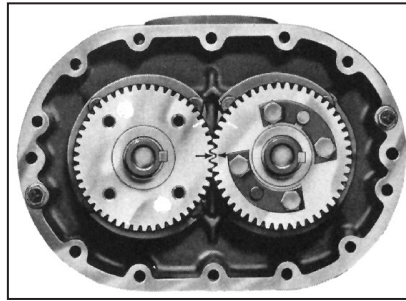
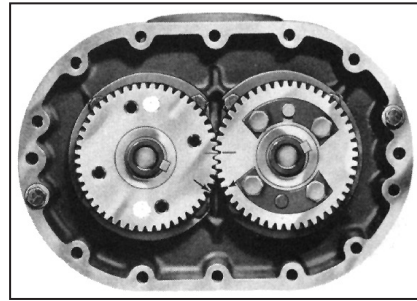

Figure 13 - Keyways in line and timing marks matched
Figure 14 - Timing marks advanced 3 teeth (Reference marks aligned)
- a. Align timing marks on gears (figure 13). Rotate drive gear clockwise approximately three teeth and mark a matching reference line on each gear as shown in figure 14. This gear position is necessary so rotors will clear and not jam. Do not allow the gears to move from the matched reference line while pulling. Use a light rocking motion to insure that the lobes have not jammed. Remove driven gear first then drive gear.
13. Lubricate shafts and install driver gear (right hand helix) on drive rotor (left side). To install driven gear, align reference marks as shown in Figure 14. Install driven gear carefully to avoid mashing any teeth when engaging opposite gear.
14. Install washers (25) and flat head Allen screws (29).
17. Install rotor housing (3) and secure with four screws evenly spaced.
25. Lay the unit down with the drive gear on the left. Using feeler gauges take interlobe readings and record on each side of housing as indicated in Figure 13. By removing or adding shim behind the helical gear, it rotates as it is moved in or out and the driven rotor turns with it, thus changing the clearance between rotor lobes. Changing the shim thickness $.006''$ (.16 mm) will change the rotor lobe clearance $.003''$ (.08 mm) or one-half the amount.